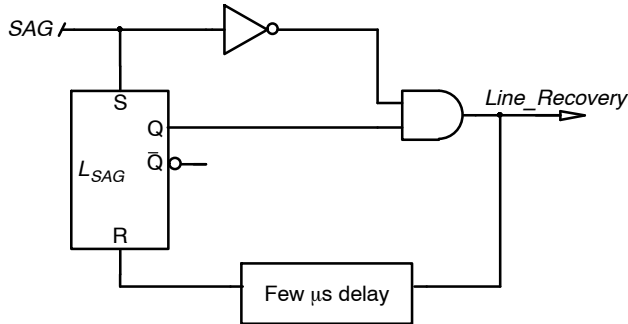

Figure 20. “Line\_Recovery” Signal
- When the soft-stop sequence ends, the PFC stops operating until the  $T_{BUV}$  delay has elapsed (515 ms typically). However, if the BUV protection trips during a line sag condition, the  $T_{BUV}$  delay is bypassed and operation immediately resumes when the line recovers. The wakeup information is provided by signal "Line\_Recovery" generated by the line-sag block (see Figure 20). This enables a rapid operation recovery when the line fault is over.
When a line-sag condition is detected, the NCP1618 starts a soft-stop sequence to gradually discharge  $V_{CONTROL}$  down-to-zero and hence, to smoothly stop operation. It also disables the CCM mode to reduce more rapidly the power delivery during the line-sag period. When the line recovers, it is required to restart the operation as soon as possible and in a clean manner. Signal “Line\_Recovery” of Figure 20 provides the wakeup information.